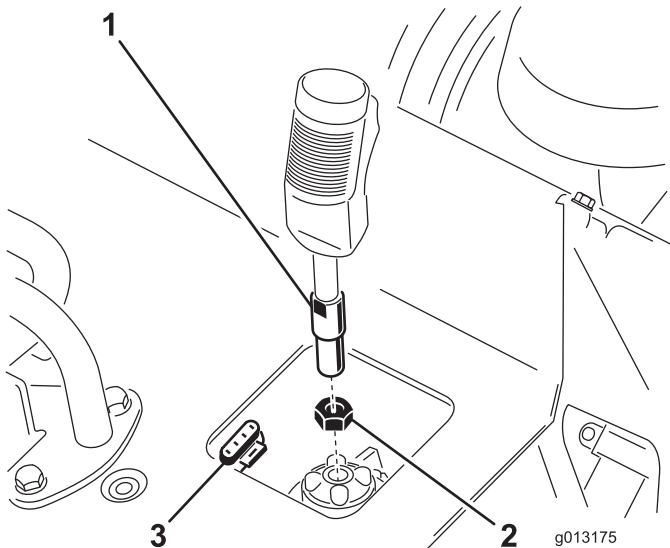

Figure 4
1. Thread the jam nut onto the grinder control lever (Figure 4).
2. Thread the grinder control lever into the receptacle on the control panel (Figure 4).
3. With the trigger oriented forward, tighten the jam nut against the receptacle to secure the lever in place (Figure 4).
4. Connect the wire on the lever to the 4-pin connector under the control panel (Figure 4).